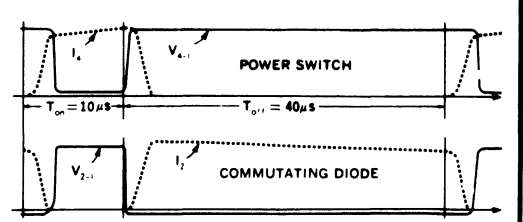

Figure 2. SM625, 626, 627 Switching Waveforms
- In switching an inductive load, the current will lead the voltage on turn-on and lag the voltage on turn-off (see Figure 2). Therefore, Voltage Delay Time (t_{DV}) $\cong t_{di} + t_{ri}$ and Current Storage Time (t_{sv}) $\cong t_{sv} + t_{fv}$.
- As can be seen from the switching waveforms shown in Figure 2, no reverse or forward recovery spike is generated by the commutating diode during switching! This reduces self-generated noise, since no current spike is fed through the switching regulator. It also improved efficiency and reliability, since the power switch only carries current during turn-on.